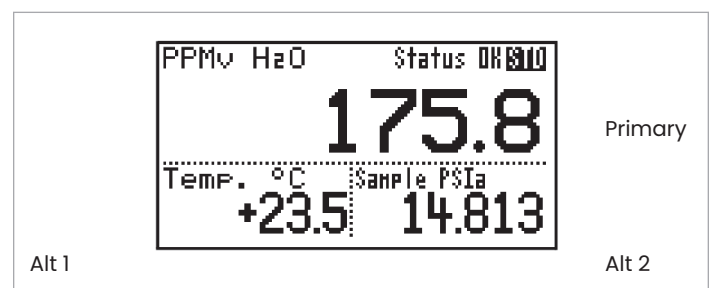

Figure 36: Default display
*Figure 36* below shows the default display of the **Aurora H20** window.